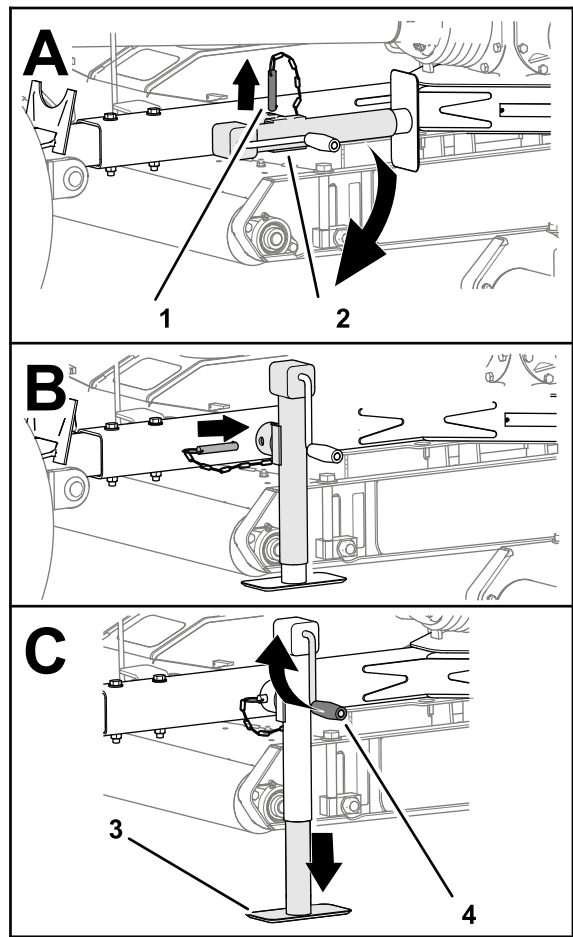

Figure 17
3. Remove the pin and rotate the tow-bar jack vertical (Figure 17).
4. Align the hole in the tow bar with the hole in the jack (Figure 17).
5. Insert the pin through the holes in the tow bar and jack (Figure 17).
2. Rotate the jack handle to fully raise the jack pad; refer to Figure 17 in Supporting the Mower with the Jack (page 14).